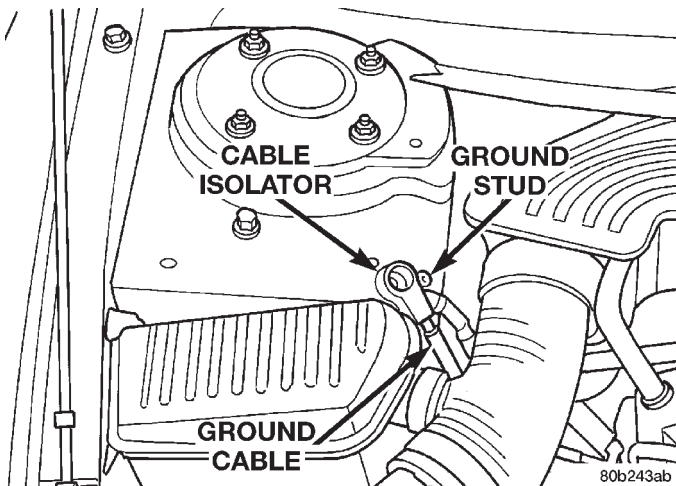

Fig. 8 Correctly Isolated Remote Ground Cable
(1) Remove the battery ground cable from the ground stud on the shock tower and isolate the ground cable by installing the cable isolator on the ground stud (Fig. 8).